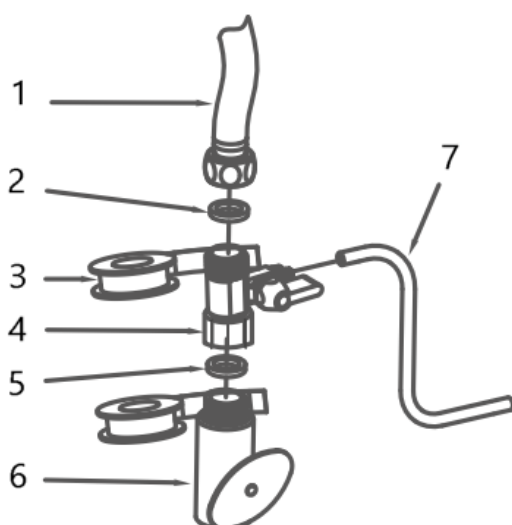

Fig. 1
3. Connect the diverter valve to the feed water valve and the hose (Fig. 1).